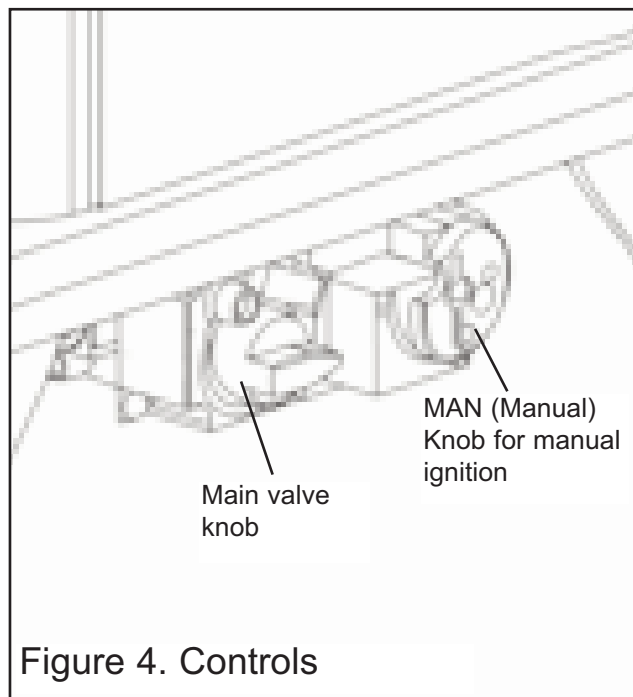

Figure 4. Controls
2. The 'main valve knob' is the knob on the left hand side (See figure 4). Turn this knob to the 'OFF', fully clockwise position .